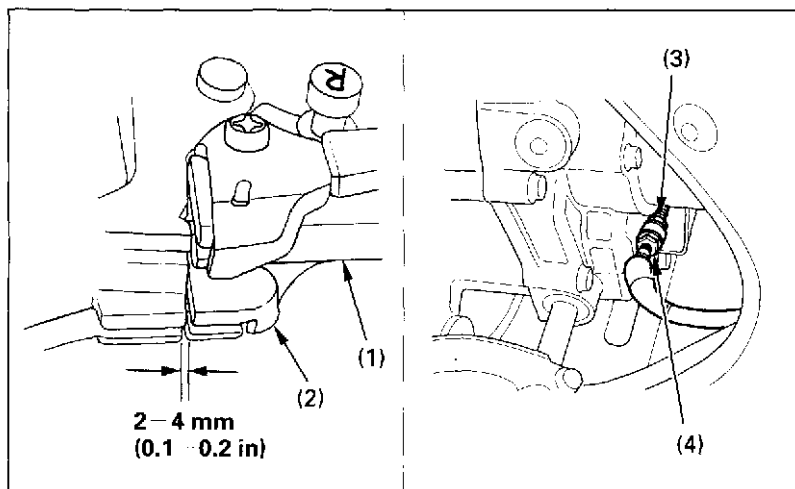

Fig. 4-16
Measure the reverse assist lever (2) free play. Free play, measured at the lever (2) end near the cable (Fig. 4-16), should be approx: